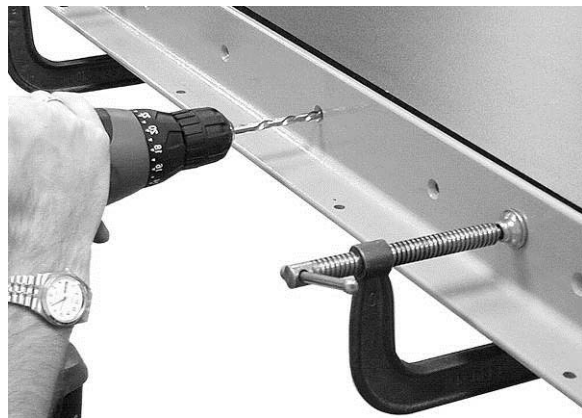

Figure 9
5. When extension table is properly aligned, drill holes into the wood table using the holes in the rails as your guide. See Figure 9. (You may wish to drill 3/32" pilot holes first.) Drill 1/4" holes into the front edge of the table using the holes in the front rail as a guide. Drill 5/16" holes into the back edge of the table using the holes in the back rail as a guide.